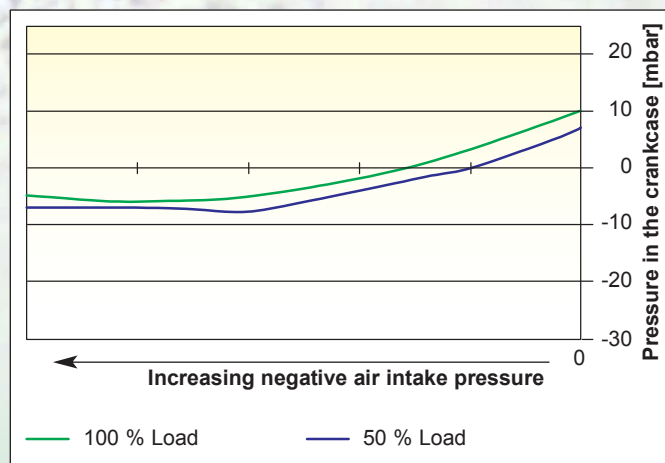

Fig. 3: Pressure adjustment curve (ProVent® 200)
In closed systems the pressure regulator (item 3 in diagram) can be set as required to maintain a constant level independent of the negative pressure of the air intake manifold. The set pressure level simply depends on the quantity of blow-by gases (see Fig. 3). The crankcase pressure remains within a narrow